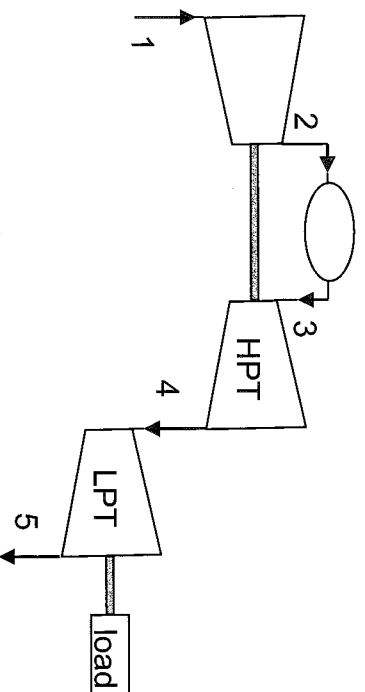

Fig Q2
- (a) Sketch the process on a Temperature-specific entropy diagram. (2)
- (i) the final temperature; (2)
- (ii) the temperature after the heating process; (2)
- (iii) the specific work transfer; (4)
- (iv) the net change in specific entropy for the polytropic process. (6)
2. In the open cycle gas turbine plant shown in Fig Q2, the HP turbine drives the compressor and the LP turbine drives the load.